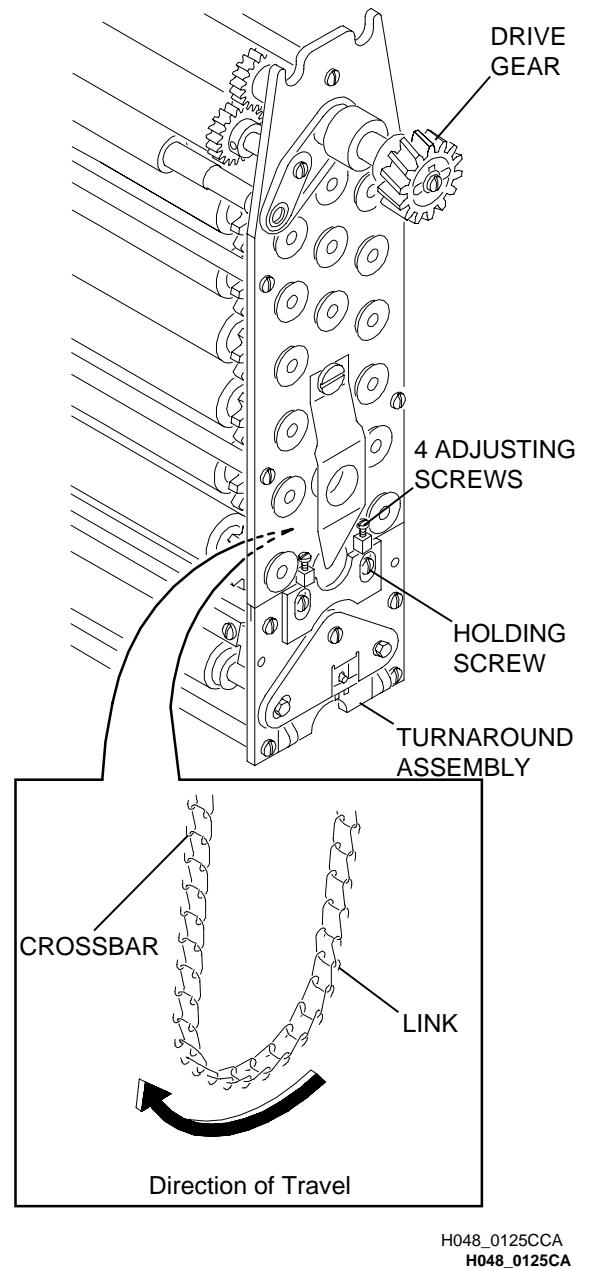

Figure 2-10 Checking the Tension of the Chain
- [3] Check that the CHAIN has the correct tension. See figure 2-10.